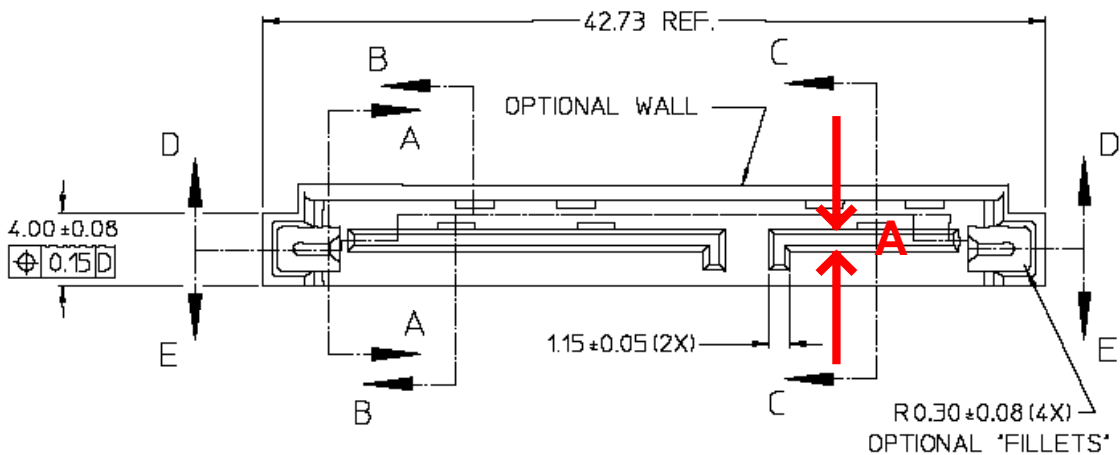

Figure 21
1. Using the outside measurement jaws of the calipers measure the thickness of the device plug tongue as shown in Figure 21. Perform a measurement sweep along the length of the connector, not just in one place. This will account for any variations in the connector. Record the worst-case measured value as A.